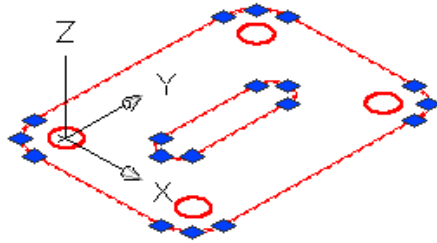

Figure Step 7
Step 7 Using what you learned earlier, use the PEDIT command to convert the lines and arcs to closed polylines. Check the objects with the Properties window to ensure they are closed polylines. See Figure Step 7.